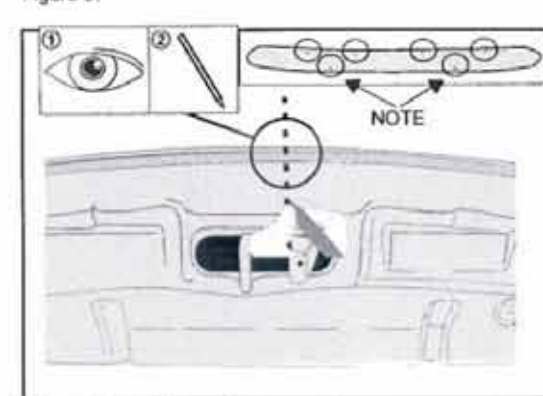

Figure 6. Mark the center clip positions
6. Note the center hole in Hood Protector that correspond to the underside of the hood. Mark the center of this position on the hood with a pencil, as per figure 6.